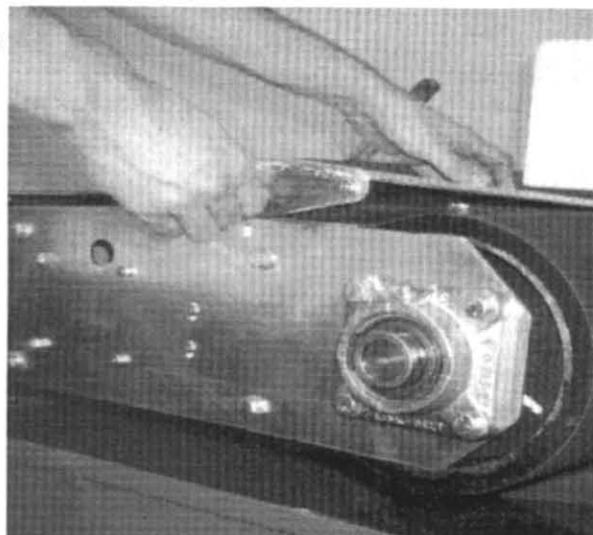

Fig 3.
7. Platen/Edge Guide Secure: (Fig 3.) Make sure that all options are in place and secure. Check to ensure platen tabs are locked. Tighten Edge guide knob. Check belt tension release handle.